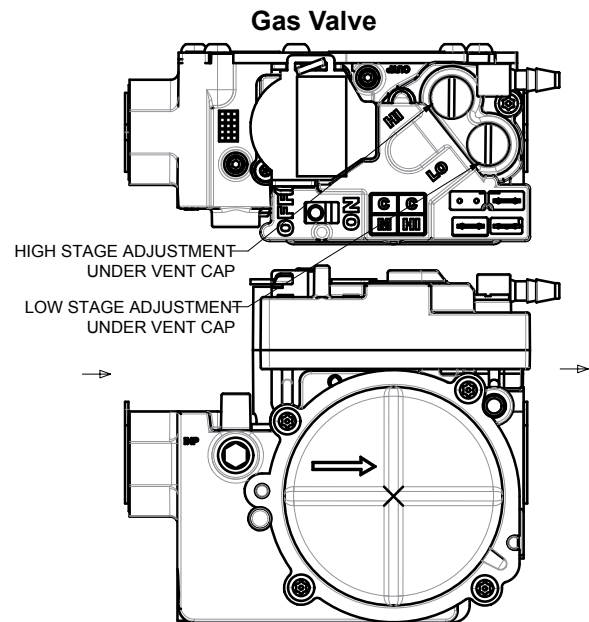

Figure 7
3. Slide the gas valve switch to the "ON" position (see Figure 7).
2. Slide the gas valve switch to the "OFF" position (see Figure 7).
The manifold pressure can be measured by shutting off the gas, removing the pipe plug in the downstream side of the gas valve, and connecting a water manometer or gauge. **Under no circumstances should the final manifold pressure vary more than 0.3" w.c. from the above specified pressures.** To adjust the regulator, turn the adjusting screw on the regulator clockwise to increase pressure and input or counterclockwise to decrease pressure and input. See Figure 7 to assist in locating the regulator on the gas valve.
1. Slide the gas valve switch to the "OFF" position (see Figure 7).
4. Slide the gas valve switch to the "ON" position and initiate a call for heat. If manifold pressure must be adjusted, the gas valve has separate adjusting screws for first stage (LO) and second stage (HI) (see figure 7). Turn the adjusting screws clockwise to increase pressure and input; turn counterclockwise to decrease pressure and input. The pressure regulator adjustment is sensitive. One turn of the adjusting screw results in a large change in manifold pressure. Final first-stage and second-stage manifold pressures must be within the allowable ranges for the gas being used.